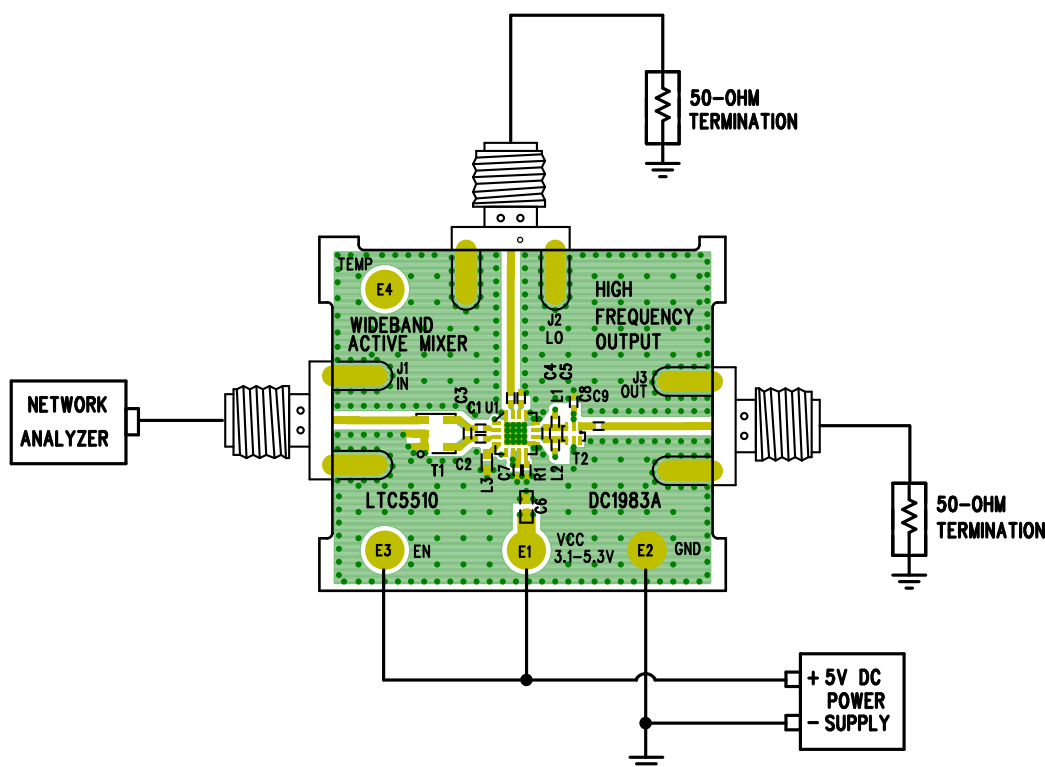
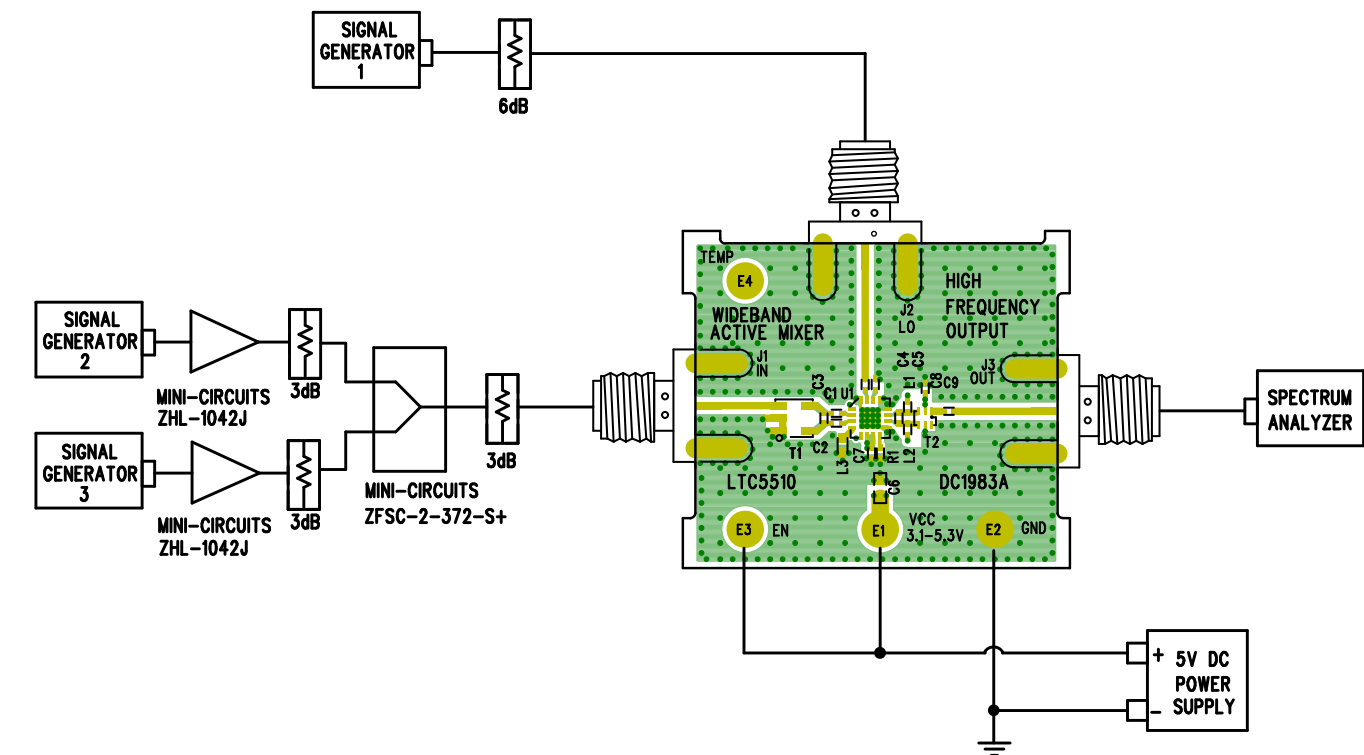

Figure 4. Proper Equipment Setup for Return Loss Measurements
Figure 5. Proper Equipment Setup for RF Performance Measurements
Demonstration circuit 1983A is easy to set up to evaluate the performance of the LTC5510. Refer to Figure 4, Figure 5, and Figure 6 for proper equipment connections.
3. Connect all test equipment as shown in Figure 4 with the DC power supply turned off.
1. Connect all test equipment as shown in Figure 5 with the signal generators and the DC power supply turned off.
The LTC5510 is a wideband active mixer IC with very high linearity. Accuracy of its performance measurement is highly dependent on equipment setup and measurement technique. The recommended measurement setups are presented in Figure 4, Figure 5, and Figure 6. The following precautions should be observed: